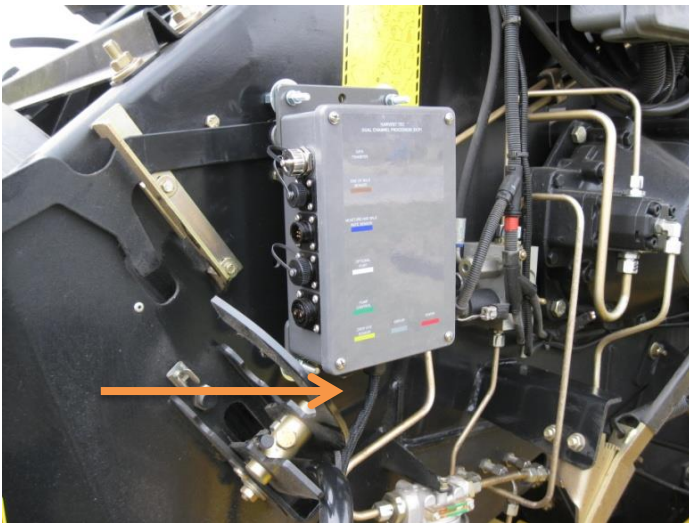

Figure 3
5. Mount the DCP with the display cable pointed down to the baler (Figure 3).